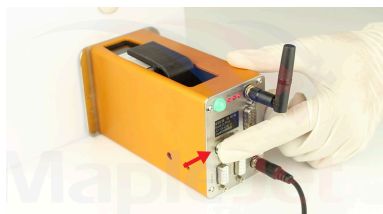

Figure 10. Print Testing
- After inserting cartridge, it is recommended to do print test. Press the print test button and slide a white blank paper in front of cartridge nozzle (follow Figure 10). Check Quick Start Up and Print Test video